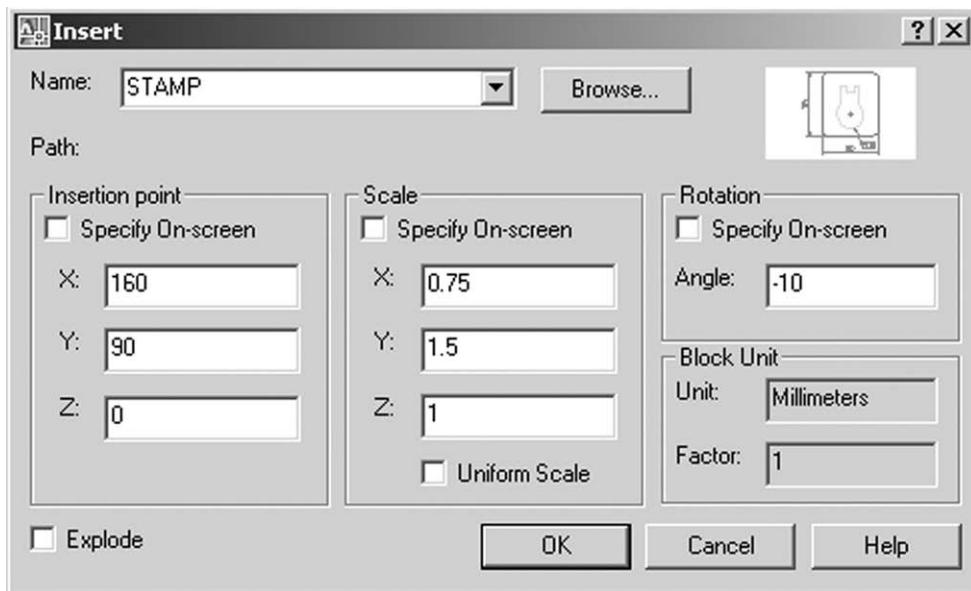

Figure 28.2 The Insert dialogue box for block STAMP.
f) ensure Explode not active (no tick) – dialogue box as Figure 28.2